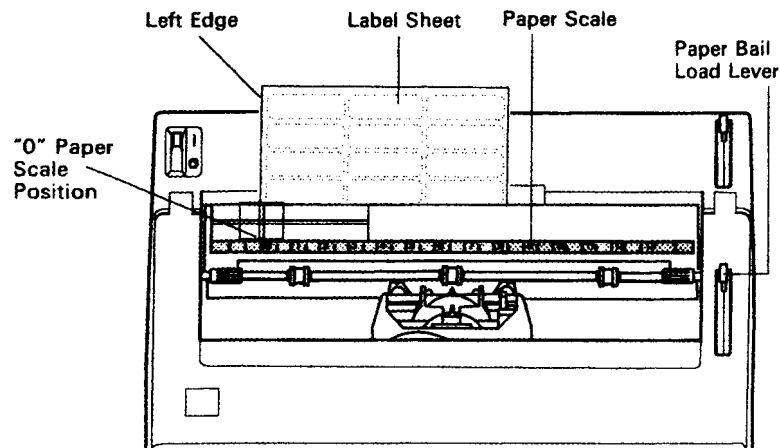

Figure 2-3.
3. Place the left edge of the label sheet in the typewriter at the 0 paper scale position. (See Figure 2-3.)
3. Place the left edge of the label sheet in the typewriter at the 0 paper scale position. (See Figure 2-3 on page 2-46.)